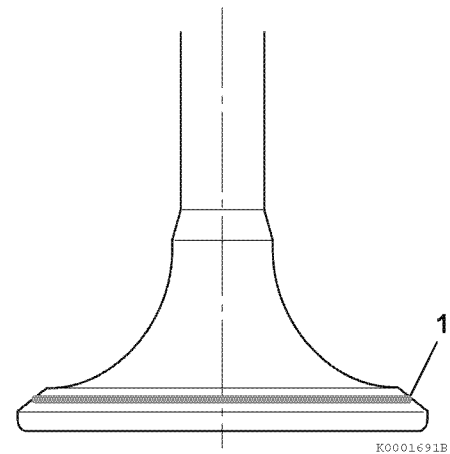

Figure 6-60
Coat the valve seat with a thin coat of bluing compound. Install the valve and rotate to distribute bluing onto the valve face. The contact pattern should be approximately centered on the valve face (Figure 6-60, (1)) and even in width.